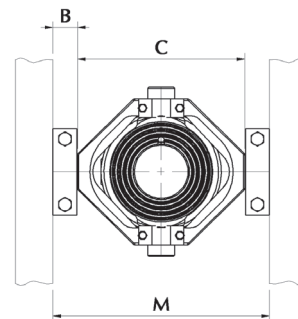

Fig. 3
- As a guide for the distance between the cross members (M) use:
- cradle width + 2 x (width of chassis bracket + 2 mm clearance), for open welded brackets (Fig. 3);